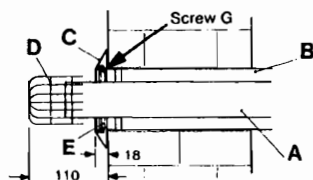

Fig. 17
Separate the two tubes by removing screw G (fig. 17).
5.5.8 Ensure inner and outer terminal tubes are firmly fitted together with screw G (fig. 17). Push the terminal tubes through the wall until the face of the outer tube protrudes 18mm from the face of the wall (fig. 17). The terminal grill (D) will then protrude 110mm from the wall face.
- 5.5.15** Check also that the outer end of the flue projects as indicated in fig. 17.
- 5.5.18** Seal the peripheral gap around the outer tube with cement or mastic and slip the cosmetic flexible plastic collar (fig. 17 item C) into groove on the pipe. This operation can only be carried out with external access. Seal the internal wall face around the air duct.
NOTE: The two tubes must be separated by removing screw G fig 17 before cutting.